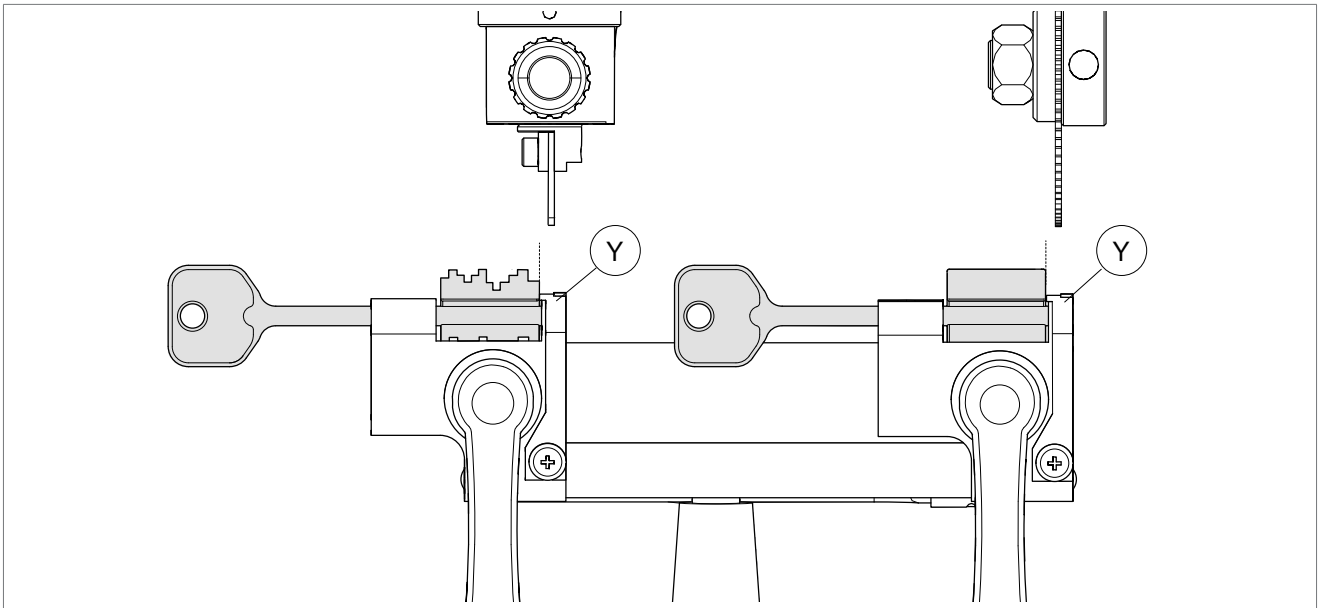

Fig. 26
- 1) Fit the keys into the clamps (original key in the left-hand clamp and key blank in the right-hand clamp) with the bit up against the stop (Y) (Fig. 26).